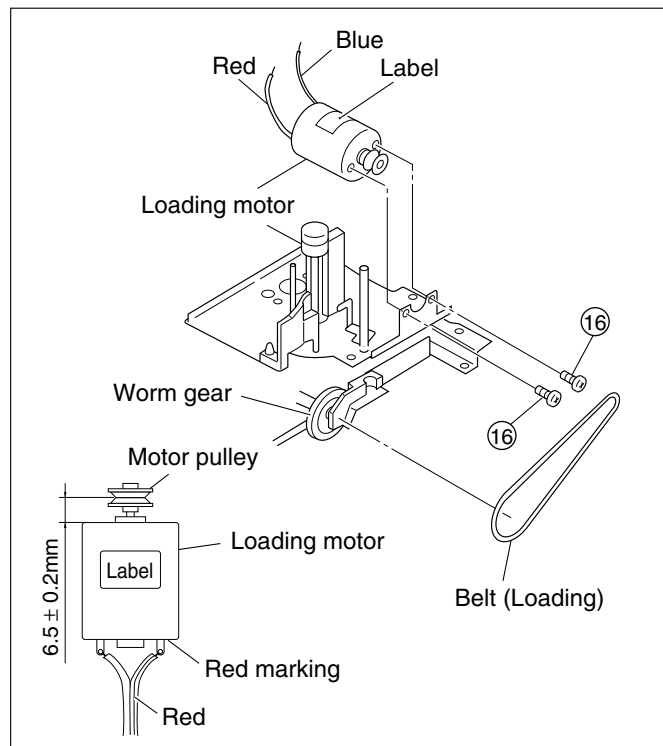

Fig. 2-3-24
② How to reassemble
- (1) Mount the loading motor and motor pulley as shown in Fig. 2-3-24.
- (2) Reassemble in the reverse order of removing.